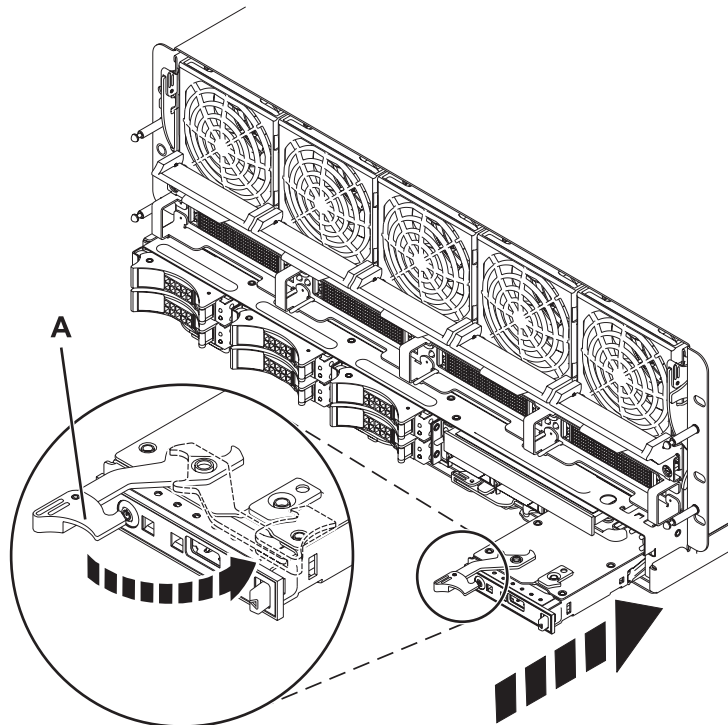

Figure 5. Installing a control panel
4. Install the new control panel, as shown in Figure 5.
- c. Move the locking arm (A) to the right, and push in on the latch to lock in place, as shown in the following figure.